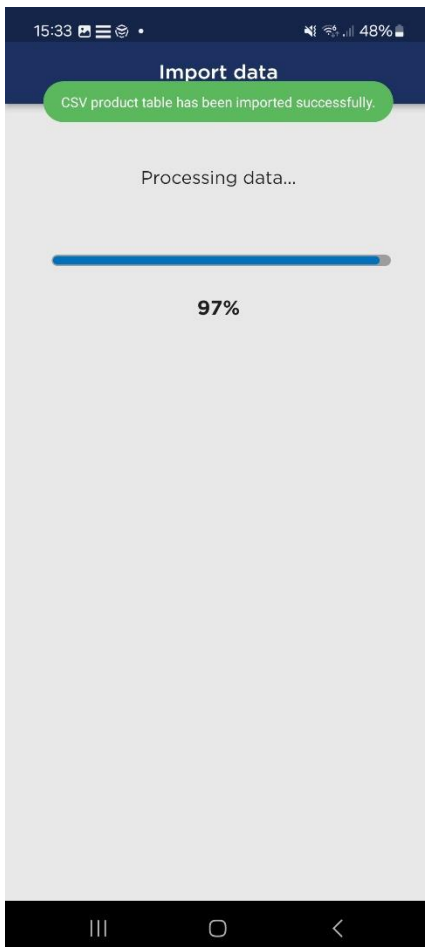

Figure 8-8: The CSV data being processed and successfully imported.
- Once the metadata columns are confirmed, the import process begins. OptiConnect will start processing the CSV data, as shown in Figure 8-8. This step involves reading the data from the CSV file and storing it in the local SQLite table with the structure based on the selected columns from the previous steps. This prepares the data for integration with the scanned entries.